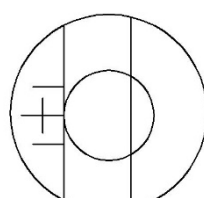

Fig.11
- 5.3.4 Rotate the left drum wheel to enable the inner side of left graduated line tangent to the left tip of the diagonal line of the indentation (see Fig.11).